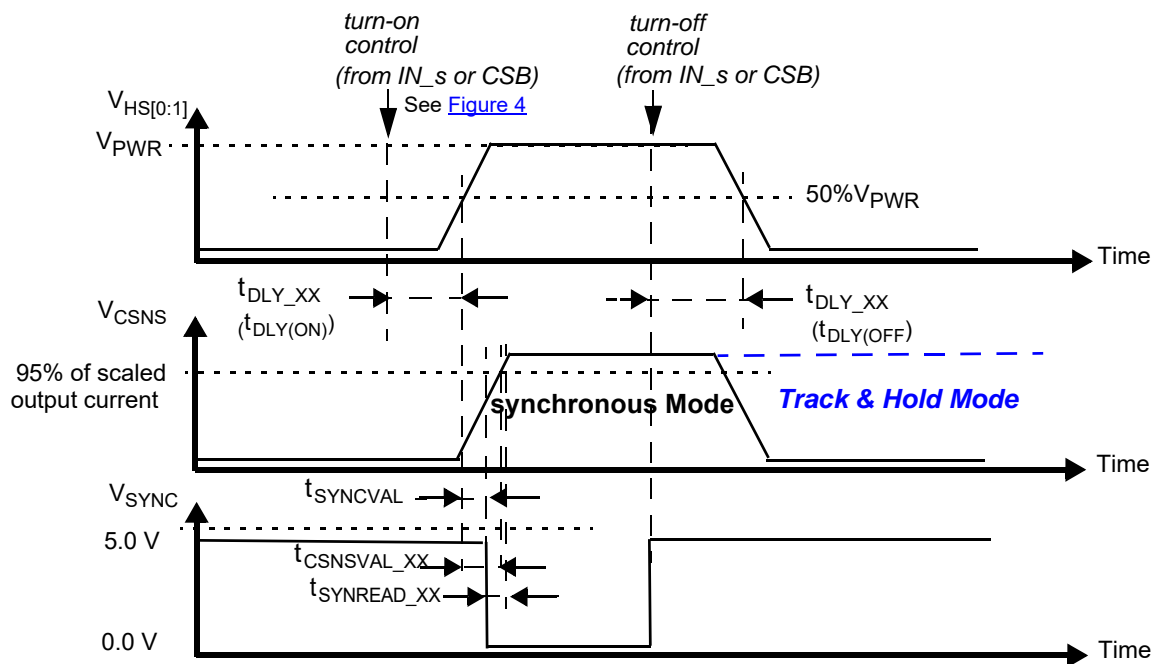

Figure 9. Synchronous and Track-and-Hold current sensing modes: associated delay and settling times
30. Time required to switch off the channel after detection of overtemperature (OT), overcurrent (OC), SC or UV error (time measured between start of the negative edge on the FSB pin and the falling edge on the output voltage until $V(\text{HS}[0:1]) = 50\%$ of V_{PWR}).
31. Settling time ($= t_{CSNSVAL_XX}$), SYNC output signal delay ($= t_{SYNVAL_XX}$) and Read-out delay ($= t_{SYNREAD_XX}$) are defined for a stepped load current using a $10\text{ }\Omega$ resistive load for $\text{CSNS_RATIO}_s = 0$. (see Figure 9 and Output current monitoring \(CSNS\)).
The CS pin allows independent current monitoring of channel 0 or channel 1 up to the steady state overcurrent threshold. It can also be used to sense the device temperature. The different functions are selected by setting bits CSNS1_en and CSNS0_en to the appropriate value (Table 23). When the CSNS pin is sensed during switch-off in the (optional) track & hold mode (see Figure 9), it outputs the scaled value of the load current as it was just before turn-Off. When several devices share the same pull-down resistor, the CSNS pins of devices the current of which is not monitored must be tri-stated. This is accomplished by setting CSNS0_en = 0 and CSNS1_en = 0 in the GCR register (Table 10). Settling time ($t_{CSNSVAL_XX}$) is defined as the time between the instant at the middle of the output voltage's rising edge ($HS[0:1] = 50\%$ of V_{PWR}), and the instant at which the voltage on the CSNS-pin has settled to $\pm 5.0\%$ of its final value. Anytime an overcurrent window is active, the CSNS pin is disabled (see Overcurrent detection on resistive and inductive loads). The current and temperature sensing functions are unavailable in Fail-safe mode and in Normal mode when operating without the V_{DD} supply voltage. In order to generate a voltage output, a pull-down resistor is required ($R(CSNS)=1.0\text{ k}\Omega$ typ. and $470 < R(CSNS) < 10\text{ k}$). When the current sense resistor connected to the CSNS pin is disconnected, the CSNS voltage is clamped to $V_{CL(CSNS)}$. The CSNS pin can source currents up to about 5.6 mA.
To synchronize current sensing with an external process, the SYNC signal can be connected to a digital input of an external MCU. SYNC is asserted logic low when the current sense signal is accurate and ready to be read. The current sense signal on the CSNS pin has the specified accuracy $t_{SYNCREAD_XX}$ seconds after the falling edge on the SYNC pin (Figure 9) and remains valid until a rising edge is generated. The rising edge that is generated by the SYNC pin at the turn-OFF instant (internal or external) may also be used to implement synchronization with the external MCU. Parameter $t_{SYNCVAL_XX}$ is defined as the time between the instant at the middle of the output-voltage rising edge ($HS[0:1] = 50\%$ of V_{PWR}), and the instant at which the voltage on the SYNC-pin drops below 0.4 V (V_{SOL}). The SYNC pins of different devices can be connected together to save μ -controller input channels. However, in this configuration, the CSNS function of only one device should be active at a time. Otherwise, the MCU does not determine the origin of the SYNC signal. The SYNC pin is open drain and requires an external pull-up resistor to VDD.